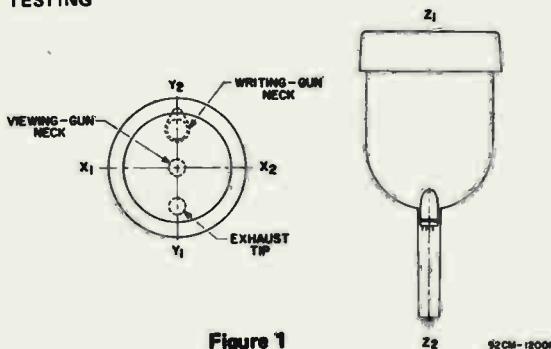

Figure 1
**Test 1.** Vibration in each of the three orthogonal axes as shown in Figure 1, to a double amplitude of 0.03 inch, varied at a uniform rate from 10 to 55 Hz and back to 10 Hz over a five minute interval for each axis.